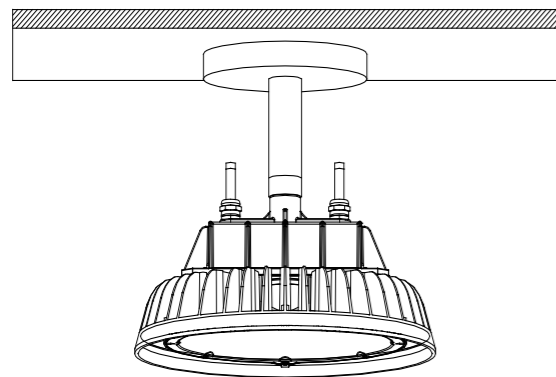

Fig. 9
2. Screw one side of the pipe into the 3/4" NPS adapter, secure another side to the of mounting position. See Fig.9